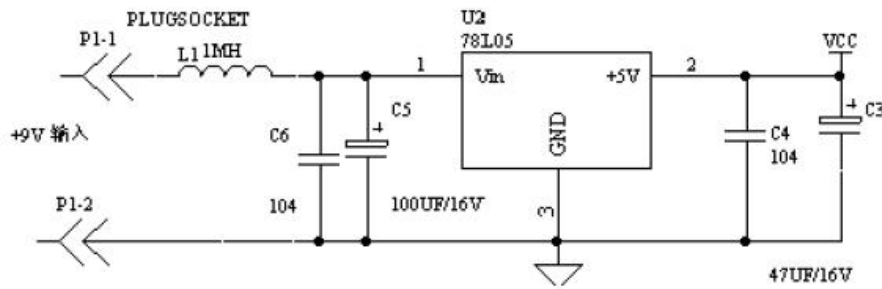

Figure 6: Voltage regulator circuit
WTC6312BSI(W) measures small change in capacitance, so it is required that the power ripple and noise should be small and the external strong interference involved from power supply shall be avoided. Particularly when it is applied to induction cooker and microwave oven, the external interference and voltage leap must be effectively isolated, and the power supply must have high stability. It is suggested that the voltage stabilizing circuit constituted by 78L05 as shown in the figure 6 should be adopted.